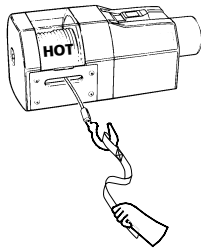

Figure 6
6. NEVER WINCH WITH LESS THAN 5 TURNS OF WIRE ROPE AROUND WINCH DRUM, since wire rope end fastener will not withstand a load. ALWAYS USE HANDSAVER when guiding hook for last few feet of rope (See Figure 6).